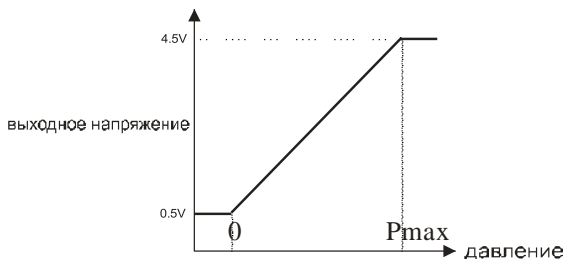

Figure 8. Pressure Sensor Feature
- Pressure sensor - measuring range of the pressure sensor. The device is designed to work with a common rail pressure sensor. The sensors of this system have a linear characteristic (the dependence of the output voltage on the applied pressure, see Fig. 8).